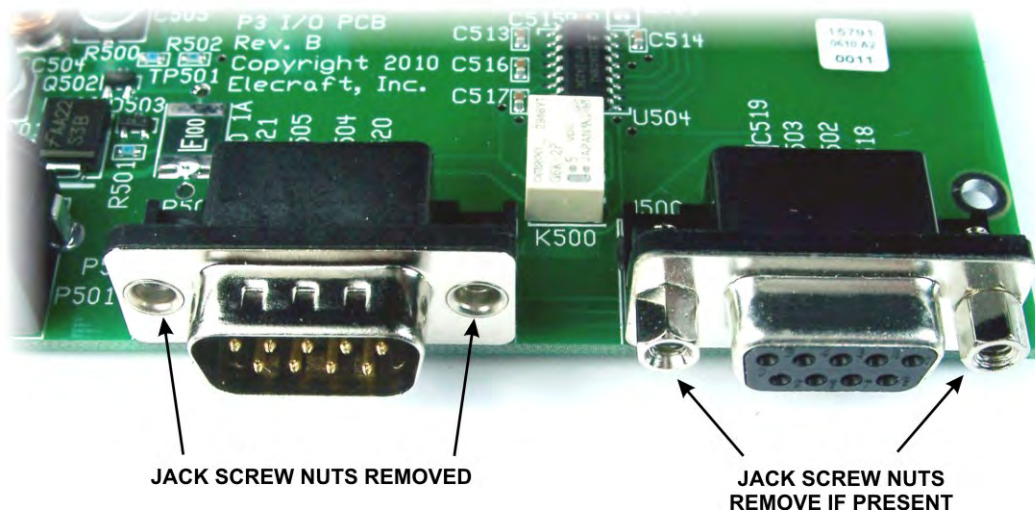
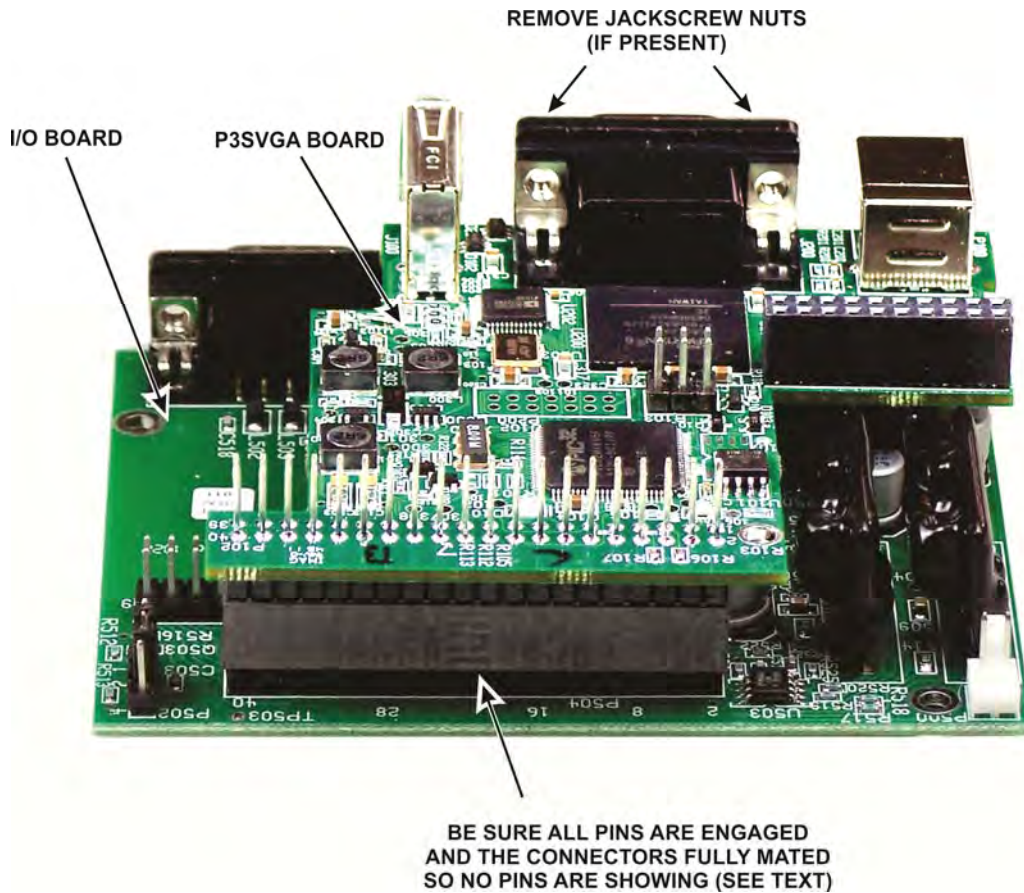

Figure 14. Preparing the I/O Board for Installation.
Figure 15. Mating the P3SVGA and I/O Boards.
- Remove the I/O printed circuit assembly from its anti-static packaging and check to see if either of the two multi-pin connectors have jack screw nuts installed (see Figure 14). These are the nuts the jack screws on the connector shells screw into to secure them. If either connector has jack screw nuts installed, remove them.
□ If you have the P3SVGA board to install at this time, check the connector and remove the jackscrew nuts if present, just as you did for the I/O board connectors (Figure 14). Mount the P3SVGA board on the I/O board as shown in Figure 15. Be sure the connectors are aligned so that all pins engage. To avoid over-stressing the boards, place the I/O board on a firm surface or support it with your fingers. You may need to rock the P3SVGA board slightly while pressing down to “walk” the pins into the connector/